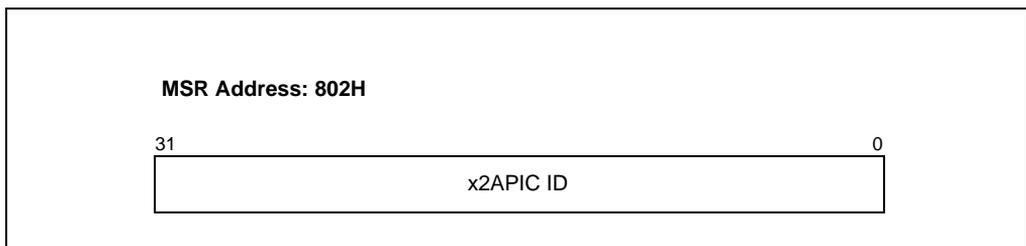
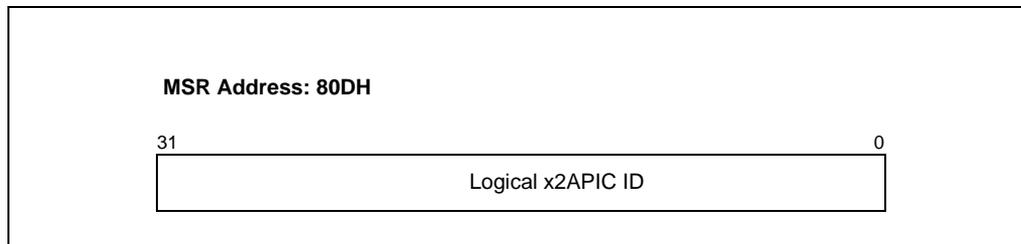

Figure 2-3. Local APIC ID Register in x2APIC Mode
Figure 2-4. Logical Destination Register in x2APIC Mode
In x2APIC mode, the local APIC ID register is a read-only register to system software and will be initialized by hardware. It is accessed via the RDMSR instruction reading the MSR at address 0802H. Figure 2-3 provides the layout of the Local x2APIC ID register.
In x2APIC mode, the Logical Destination Register (LDR) is increased to 32 bits wide. It is a read-only register to system software. This 32-bit value is referred to as "logical x2APIC ID". System software accesses this register via the RDMSR instruction reading the MSR at address 80DH. Figure 2-4 provides the layout of the Logical Destination Register in x2APIC mode.
- to the x2APIC mode by setting EXT to 1 (resulting EN=1, EXTD= 1). The physical x2APIC ID (see Figure 2-3) is preserved across this transition and the logical x2APIC ID (see Figure 2-4) is initialized by hardware during this transition as documented in Section 2.4.4. The state of the extended fields in other APIC registers, which was not initialized at RESET, is not architecturally defined across this transition and system software should explicitly initialize those programmable APIC registers.